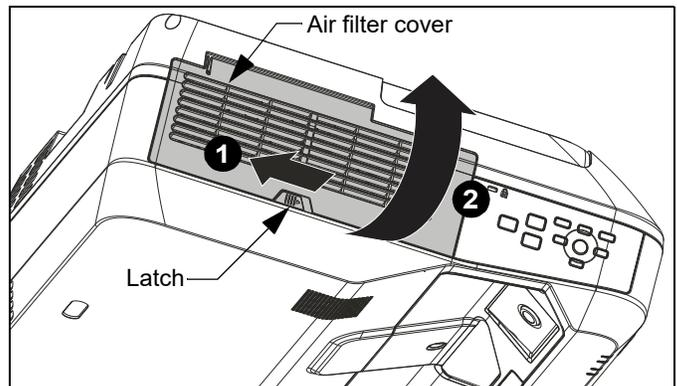

Figure 21
1. Slide the air filter cover latch. (See Figure 21)
2. Open the air filter cover. (See Figure 21)